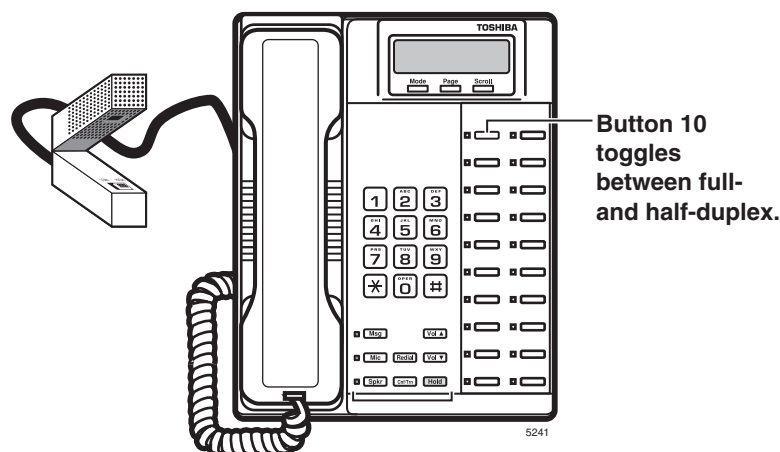

Figure 7-42 Button 10 on the Full-duplex Speakerphone
- Press button 10 (see Figure 7-42) to turn full-duplex mode On or Off.